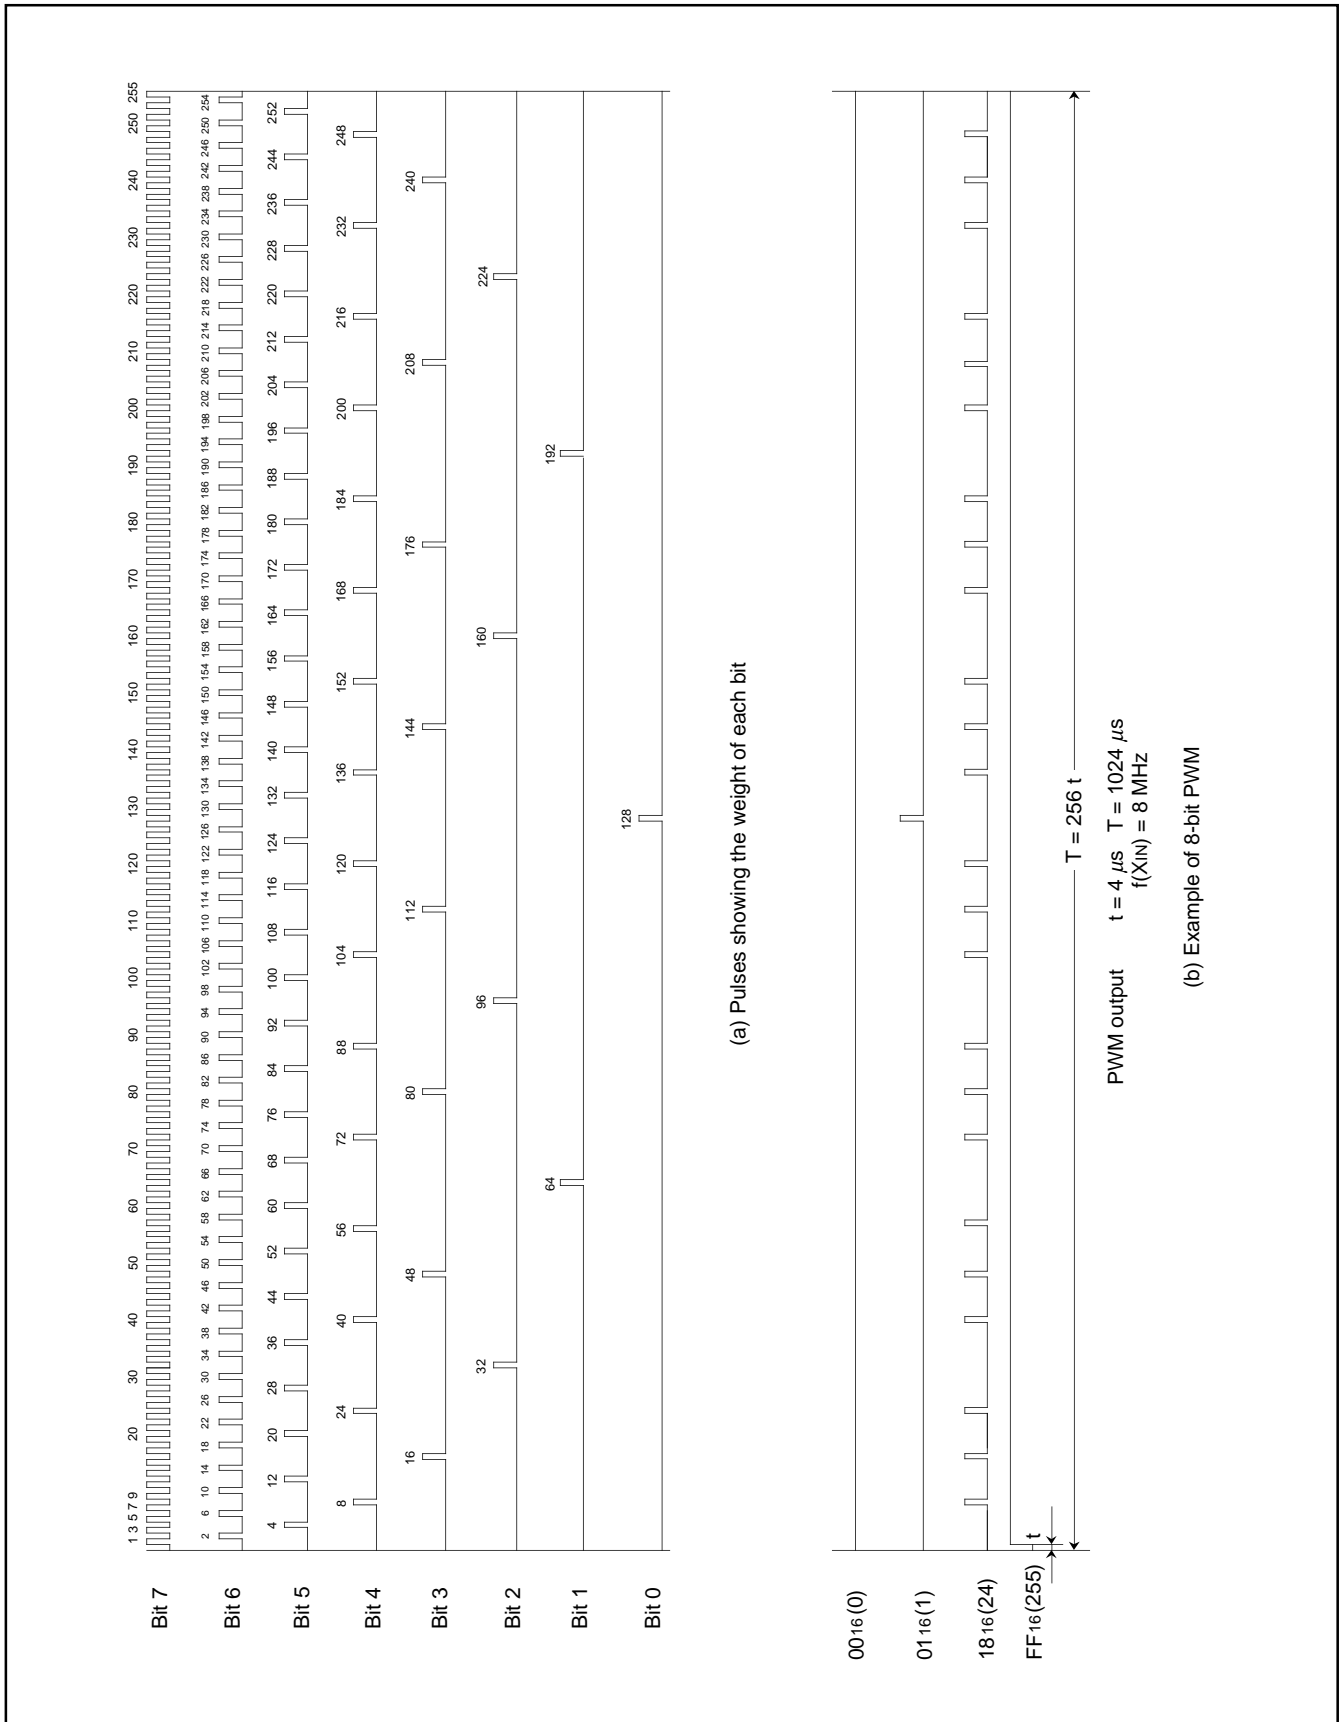

Fig. 24. 8-bit PWM timing
Figure 24 shows the 8-bit PWM timing. One cycle ( $T$ ) is composed of  $256 (2^8)$  segments. The 8 kinds of pulses relative to the weight of each bit (bits 0 to 7) are output inside the circuit during 1 cycle. Refer to Figure 24 (a). The 8-bit PWM outputs waveform which is the logical sum (OR) of pulses corresponding to the contents of bits 0 to 7 of the 8-bit PWM register. Several examples are shown in Figure 24